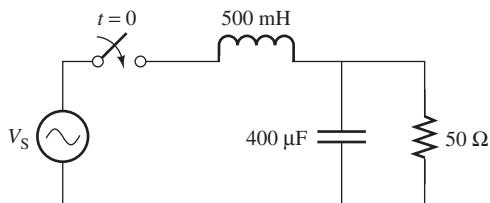

FIGURE P5.55 Circuit for Problem 5.55.
- 5.55** (H) The switch closes at $t = 0$ s. Given $v_S(t) = 20 \sin(200t)$, find the current flow across the resistor $i_R(t)$ for the circuit shown in Figure P5.55.